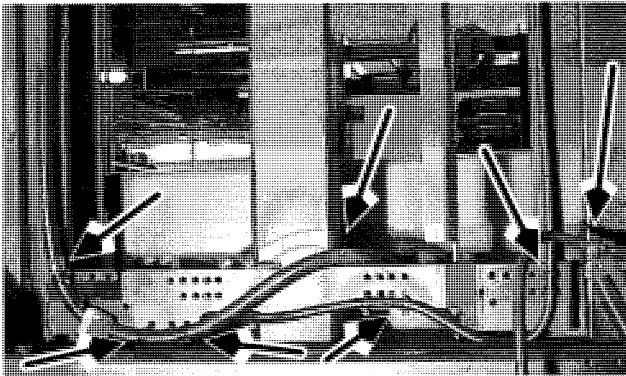

Figure 7-116. Tie Points for Cables on Platform, Backside
9. Tie electric cables to platform. See Figure 7-116.